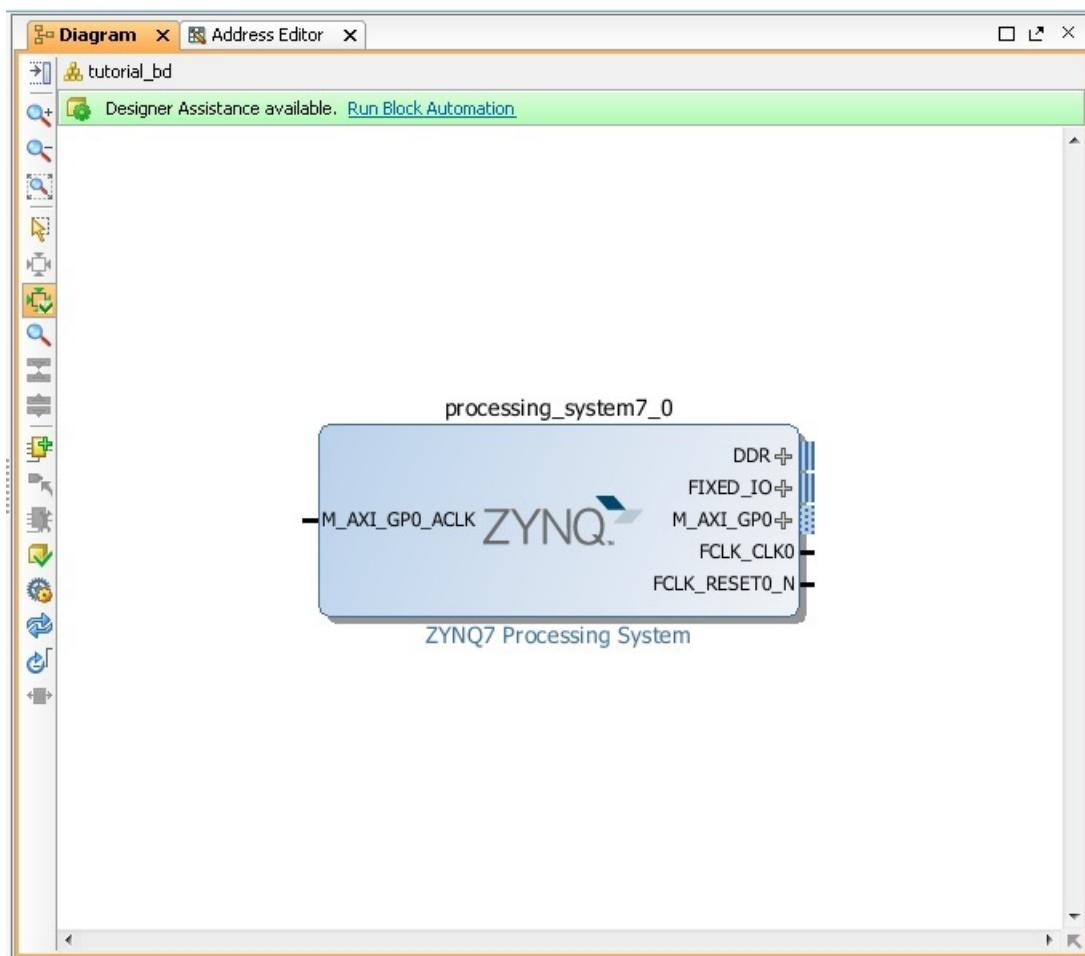

Figure 2-2: Zynq SoC Processing System IP Block
5. In the search box, type `zynq` to find the Zynq device IP options, and double-click the **ZYNQ7 Processing System** IP to add it to the Block Design. The Zynq SoC processing system IP block appears in the Diagram view (Figure 2-2).